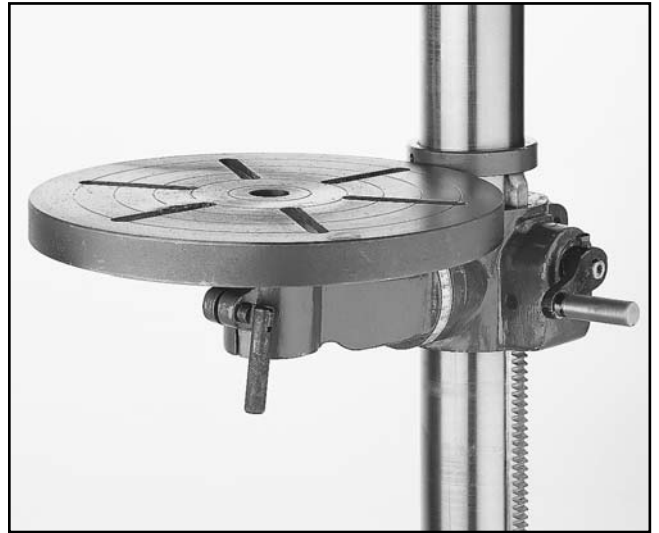

Figure 8.
4. Place the table into the hole in the table bracket and secure with the table lock handle. **Figure 8.**